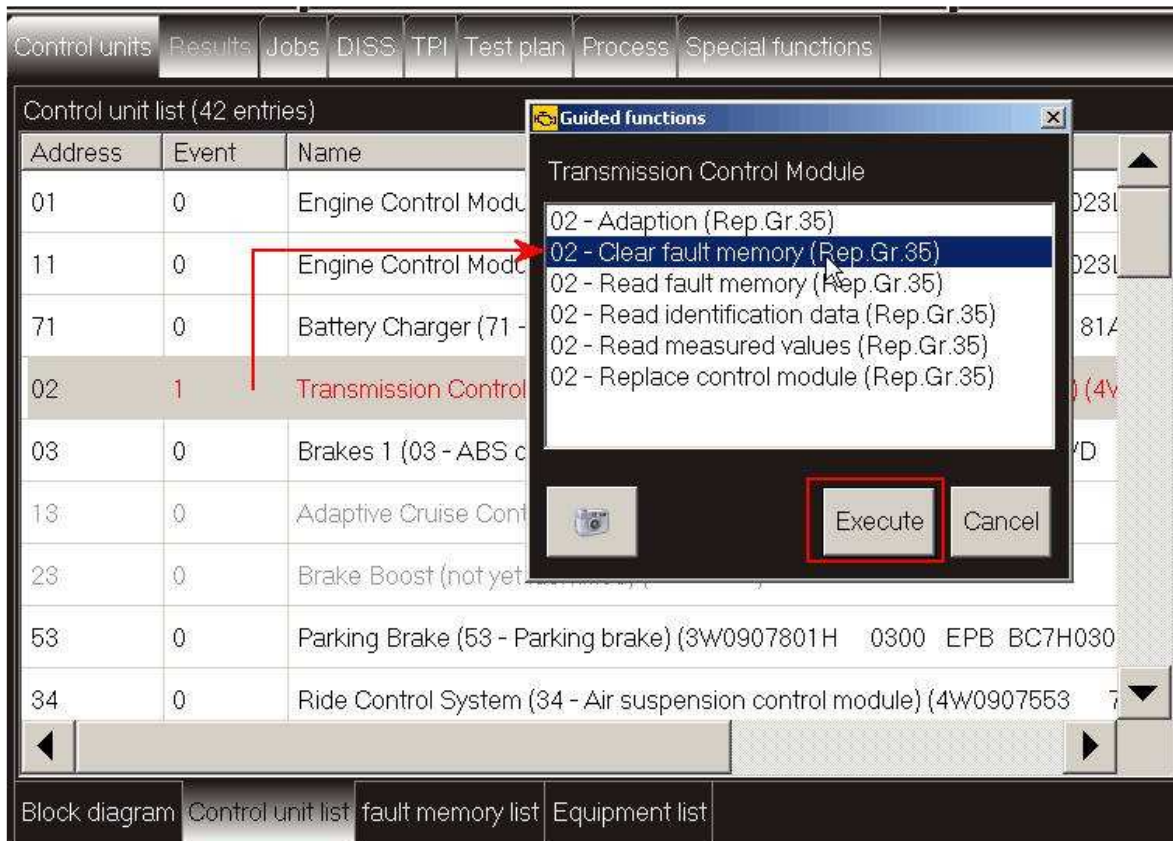

Figure 10
20. NOTE 2: It is possible that an engine or transmission fault code may require guided fault finding to be used directly in that specific control module to clear the fault code (see Figure 10)